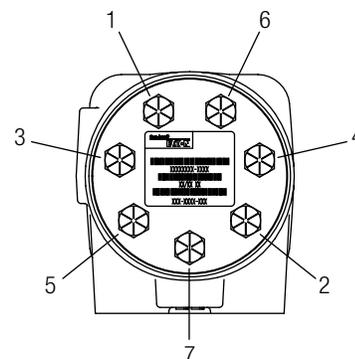

Figure 5
8 Torque all cap screws to 11-17 Nm [100-150 lb-in] evenly, then to final torque in sequence shown (figure 5) to 31-37 Nm [275-325 lb-in].
**Note:** Seven cap screws for meter section should be torqued evenly with less than 5% variation (see figure 5). Tightening torque variation between 31-37 Nm [275-325 lb-in] to satisfy travel limit slip rate and input torque requirements (see figure 6) is permissible.